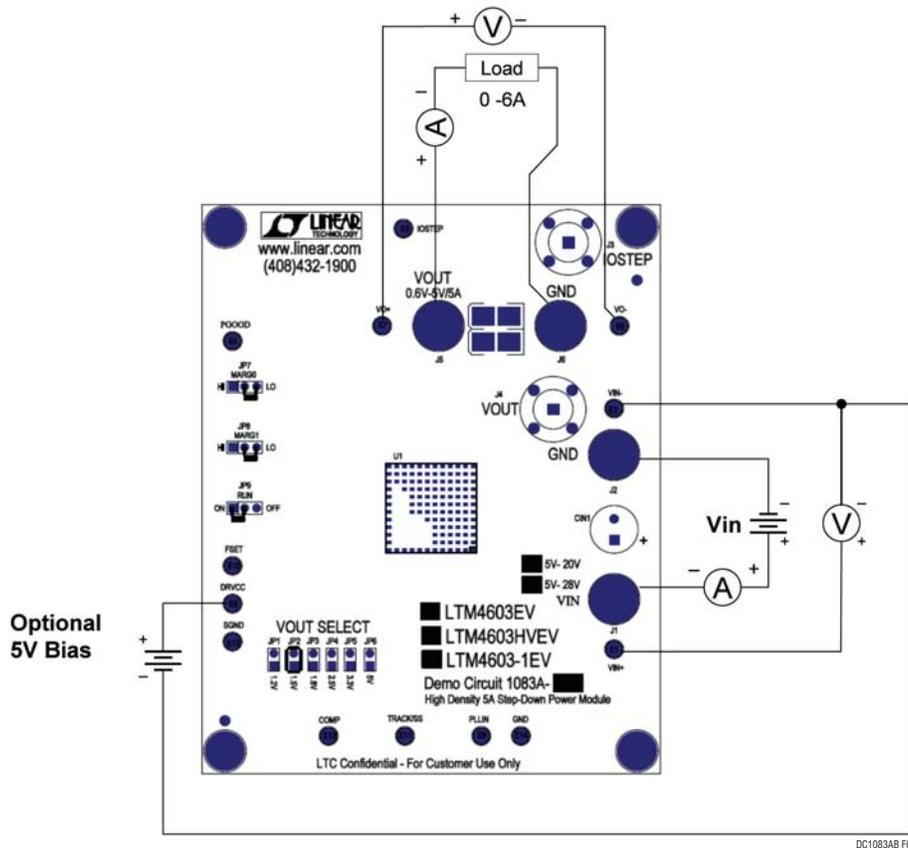

Figure 1. Test Setup of DC1083A-B (DRV_{CC} Bias Supply is Optional)
Demonstration circuit 1083A-B is an easy way to evaluate the performance of the LTM4603HV. Please refer to Figure 1 for proper measurement equipment setup and follow the procedure below:
2. With power off, preset the load to 0A and V_{IN} supply to be less than 28V. Connect the input power supply, load and meters as shown in Figure 1.